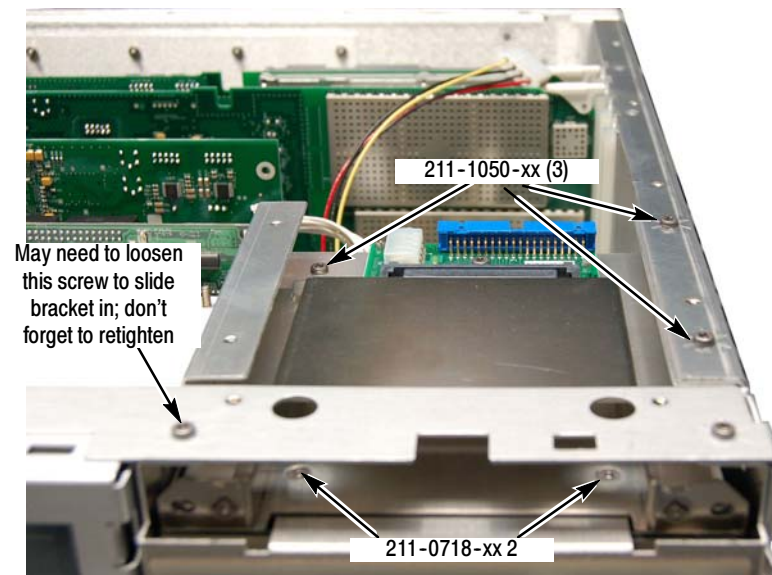

Figure 25: Reinstalling the bracket assembly
3. Reinstall the bracket assembly into the chassis. Reinstall the five screws, previously removed, to secure the bracket assembly in the chassis. See Figure 25.